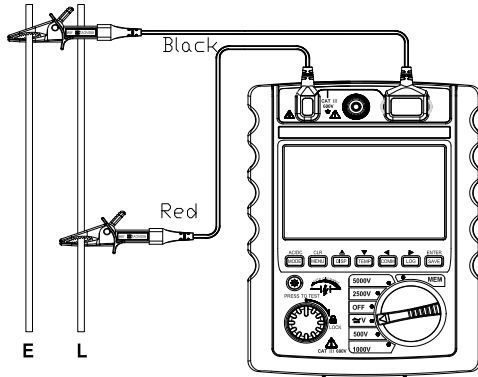

Figure 4
6.1 Voltage measurement (As shown in Figure 4)